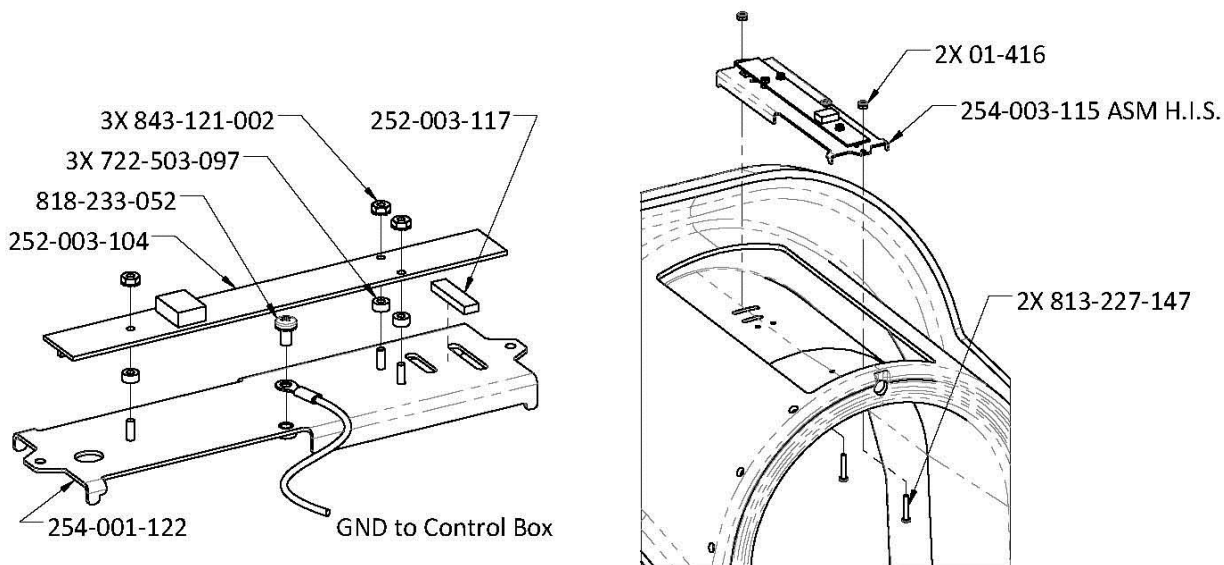
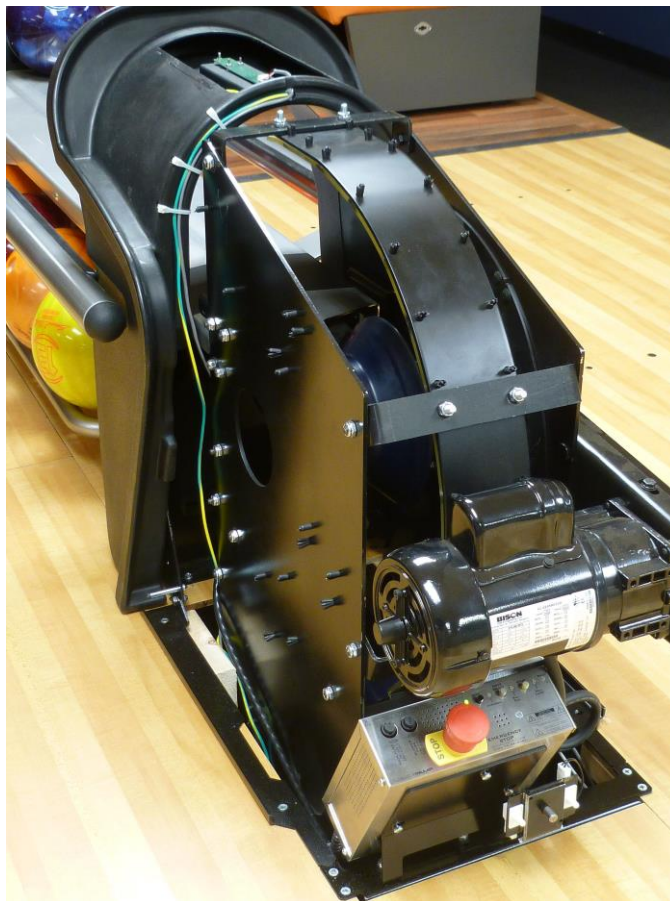

Figure 21, Intrusion Sensor Installation
Figure 22, Intrusion Sensor Cable Routing
20. Insert screws up through the two holes in the top of the bezel tunnel and through the holes in the ends of the ground plate. Place lock nuts on top and tighten until secure. If the metal ground plate tabs start to bend, it is too tight. Secure the ground wire to the grounding plate with the screw as shown in Figure 21.
22. Route the cables from the sensor control board along the even-lane side of the ball lift to the lift control box through the designated entry point. Secure cable ties as required to keep the wires out of the path of the ball or any moving parts. See Figures 21 and 22. Restrain the cables to the bezel with cable ties as shown in Figure 22.